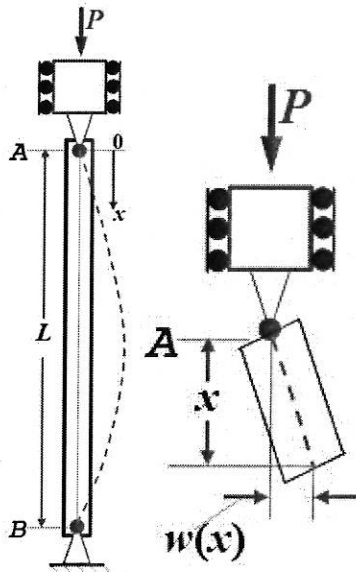

Figure 1(a) Figure 1(b)
Q.1. Euler column buckling is a classical example of structural instability whereby a structure subjected to same loading can produce two different deformation states based on the load value. Figure 1(a) shows a column pin-joined at both ends and subjected to compressive axial load P . The column material is assumed to be linear elastic isotropic solid with Young's modulus E . Column is homogeneous with length L , uniform cross-section with area A and moment of inertia I . Assume deformations are infinitesimally small and buckled state comprises of bending deformation only. Buckled state is a very slight deviation from the vertical straight line.
- (a) Complete the partial free body diagram (F.B.D) shown in Figure 1(b) with forces and moments at the exposed section at a distance x from A. Apply equilibrium conditions to the F.B.D to obtain governing equation for transverse deflection $w(x)$ (See Figure 1(b)). Use the boundary conditions at ends A and B to solve for $w(x)$. Thus find the minimum critical load P_{cr} for buckled configuration shown in Figure 1(a).
- (b) Similar result can be obtained using Energy method. Express the strain energy (U) of the buckled column in terms of the unknown $w(x)$. Similarly express the work done (W) by applied load P to produce the buckled state. In the buckled state shown through dash lines in Figure 1(a), assume the column length as L' . Note that owing to infinitesimal deformation assumption and buckled state not being too far from vertical column position, L' is very close to L . Apply principle of conservation of energy and express the applied load in terms of unknown $w(x)$. Use the solution for $w(x)$ from previous section to recover the result for P_{cr} . Suggest any other suitable choice of kinematically admissible solution for $w(x)$ and thus compute P_{cr} . Finally compare the magnitudes of P_{cr} vis-à-vis the choice of $w(x)$.